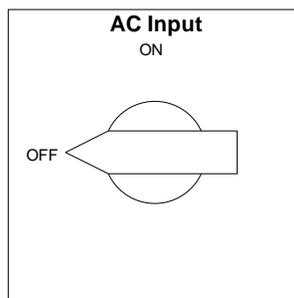

Fig. 4-21
Step 5: Open the **AC Input** breaker of the UPS (Fig. 4-21). The UPS will shut down. As an additional precaution, the AC supply feeding this UPS may now be de-energized.